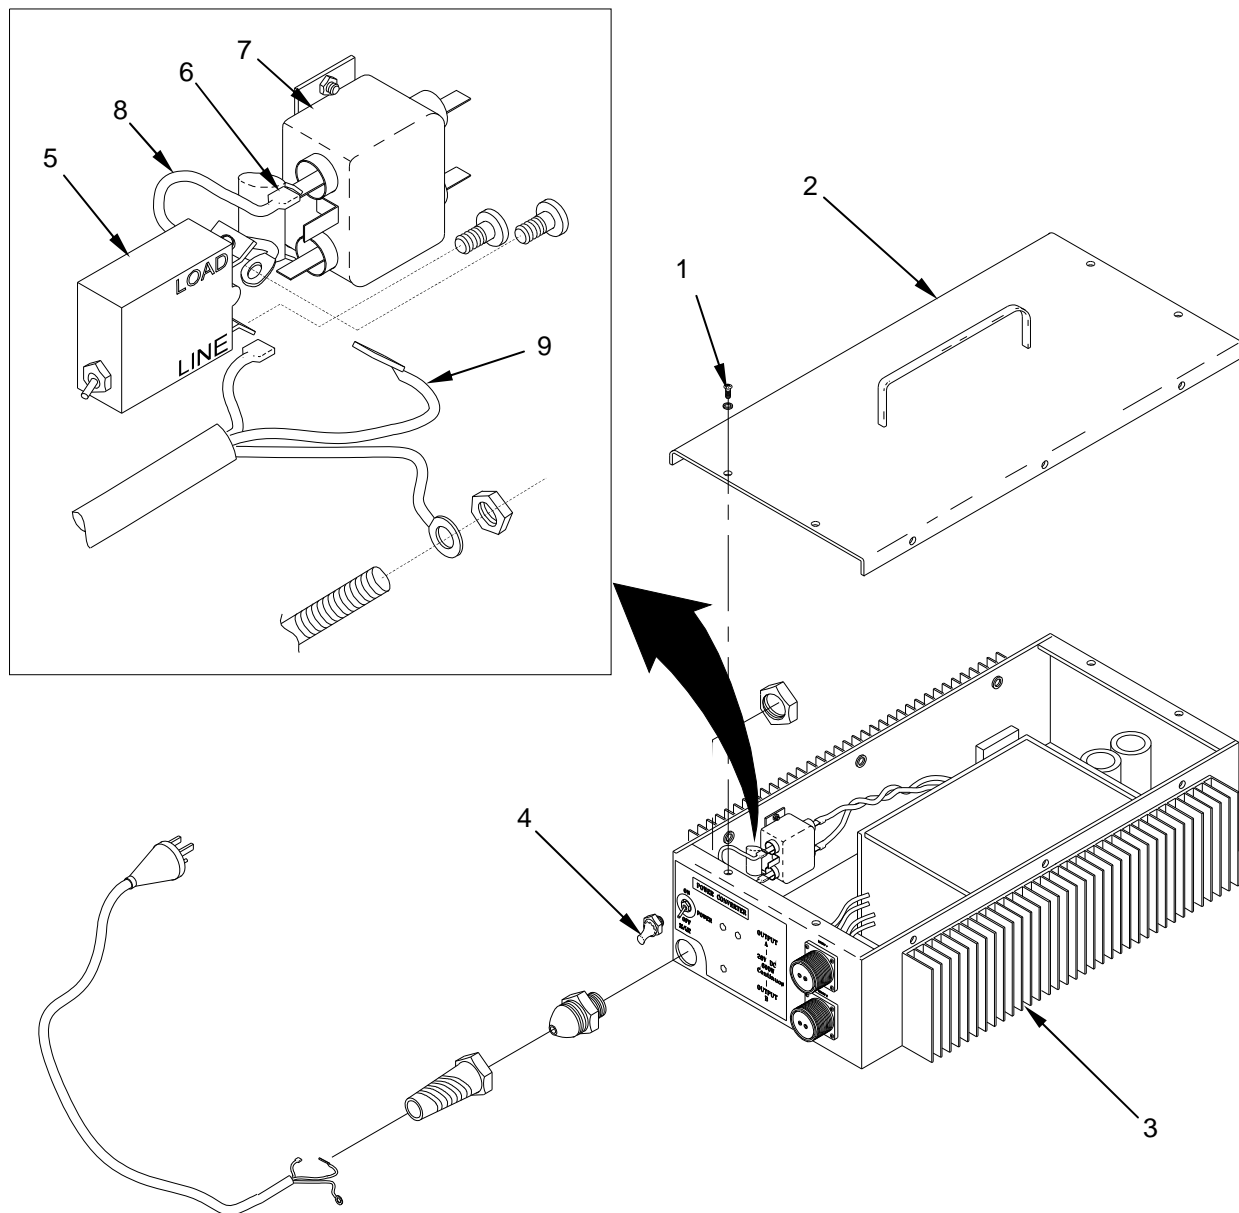

Figure 3. Replace the Main Power Switch (MS0150).
1. Disconnect the power converter (Figure 3, Item 3) from the power source.
2. Remove the fasteners (Figure 3, Item 1) retaining the top cover (Figure 3, Item 2) of the power converter (Figure 3, Item 3) and remove the top cover.
3. Loosen and remove the hex nut with protective rubber cap (Figure 3, Item 4) of the main power switch (Figure 3, Item 5).
4. Take note of the location, color, and connection point of the two wires connected to the main power switch (Figure 3, Item 5) inside the power converter (Figure 3, Item 3) to ensure that the wires are reconnected properly when the switch is replaced.
5. Reach inside the power converter (Figure 3, Item 3) case and disconnect the spade connector (Figure 3, Item 6) which connects the power switch (Figure 3, Item 5) to the AC filter block (Figure 3, Item 7).
6. Loosen and remove the screw that secures the wire (Figure 3, Item 8) to the second terminal. Retain the screw for reassembly. Set this wire aside.
7. Loosen and remove the screw retaining the power cord wire (Figure 3, Item 9) to the switch (Figure 3, Item 5) at the LINE terminal.
8. Remove the main power switch (Figure 3, Item 5) from the power converter (Figure 3, Item 3).
9. To install a new main power switch (Figure 3, Item 5), install the short wire (Figure 3, Item 8) set aside earlier on the switch terminal labeled "LOAD." Secure with retained screw.
10. Place the switch (Figure 3, Item 5) in position in the power converter's (Figure 3, Item 3) front panel. Be sure to position the switch so that the screw terminal labeled "LOAD" is facing up and out of the case while the terminal labeled "LINE" is facing down into the power converter case.
11. Install the hex nut with protective rubber cap (Figure 3, Item 4) on the front of the power switch (Figure 3, Item 5).
12. Connect the spade terminal (Figure 3, Item 6) to the lug on the AC filter block (Figure 3, Item 7).
13. Connect the power cord wire (Figure 3, Item 9) to the switch (Figure 3, Item 5) at the terminal marked "LINE," and secure with screw.
14. Install power converter cover (Figure 3, Item 2) and secure with the retained fasteners (Figure 3, Item 1).